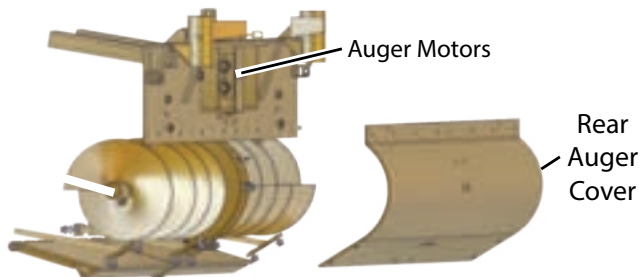

Figure 5-35. Rear Auger Cover (Side View)
5. Remove rear auger cover. **(Figure 5-35)**